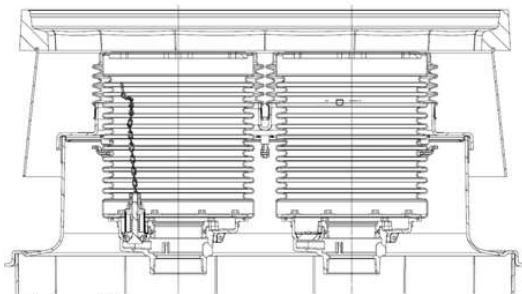

Figure 39
61. Install water shroud platform and boots over spill containers. See Figure 39.